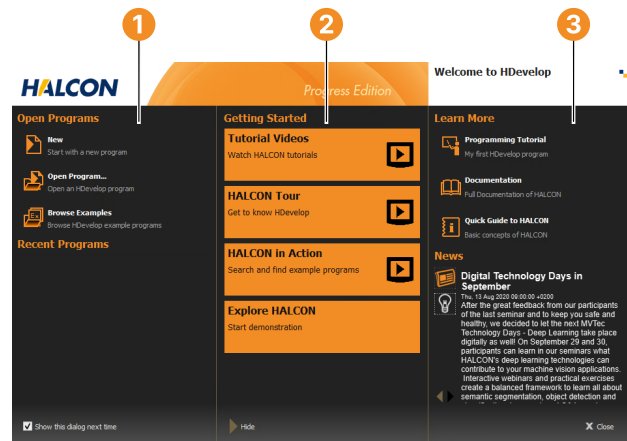

Figure 2.1: Start dialog.
The example program “Explore the Power of HALCON” demonstrates many different capabilities of HALCON in one program. It can be started from the start dialog, see figure 2.1 on page 16 (2). Running this program is highly recommended to get a good overview of the many application areas of HALCON.